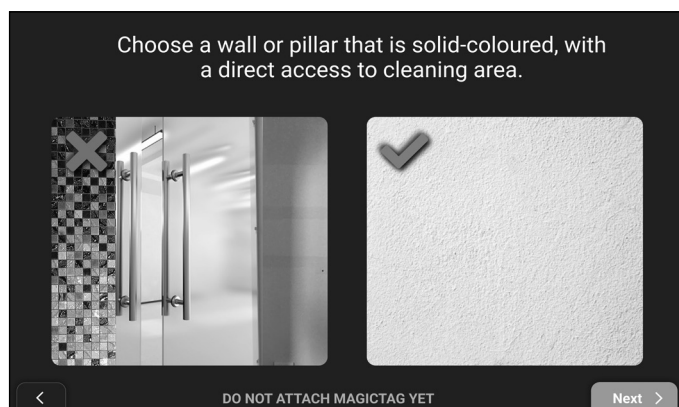

Figure 28
6. Choose a well-lit plain wall (Fig. 28). Avoid dark, reflective, and metal surfaces. Ensure that the place that you choose has direct access to the cleaning area.
7. After choosing the location, press 'Next' (Fig. 28). Push the robot to face the wall at the chosen location. Ensure that the robot is ~30 cm from the wall.